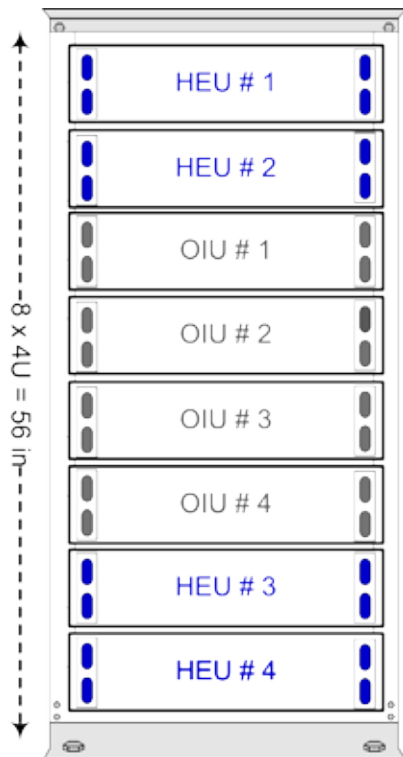
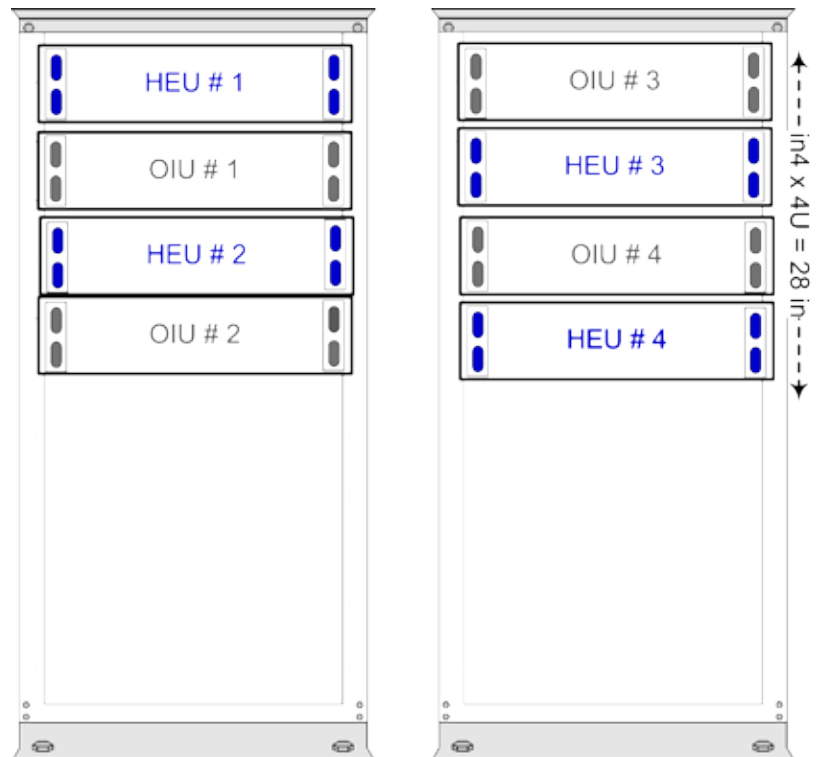

Figure 5-2. 4x4 Installation Diagram – Dedicated
Figure 5-3. 4x4 Installation Diagram – Shared
1. Determine the location of the HEU in the rack while considering additional HEU and OIU units and the lengths of the available ERFC cables. Figure 5-2 and Figure 5-3 illustrate the optimal rack installations for a maximum 4x4 HEU-OIU configuration in shared and dedicated equipment scenarios.